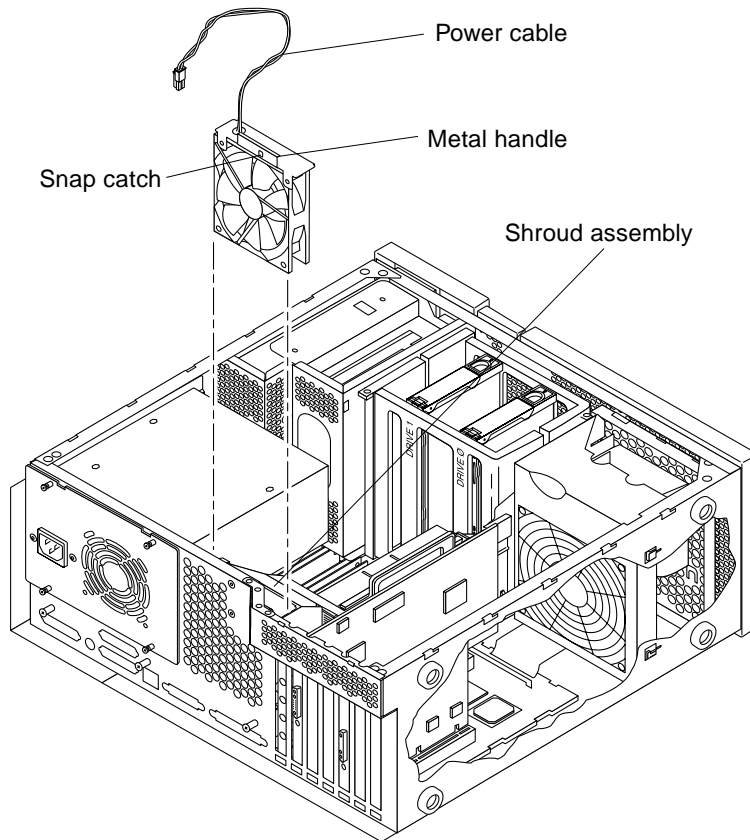

FIGURE 8-14 Removing and Replacing the Two-Piece Shroud Fan Assembly
4. Disconnect the fan assembly as follows (FIGURE 8-14):
1. **Connect the fan assembly as follows (FIGURE 8-14):**